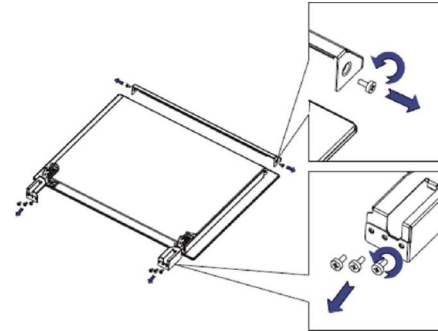

Figure 2
1. Remove the top (shutter) by screwing down bolts on both sides. (See figure 2).
2. Screw down other 6 bolts in the opposite top on both sides of door (See figure 2).